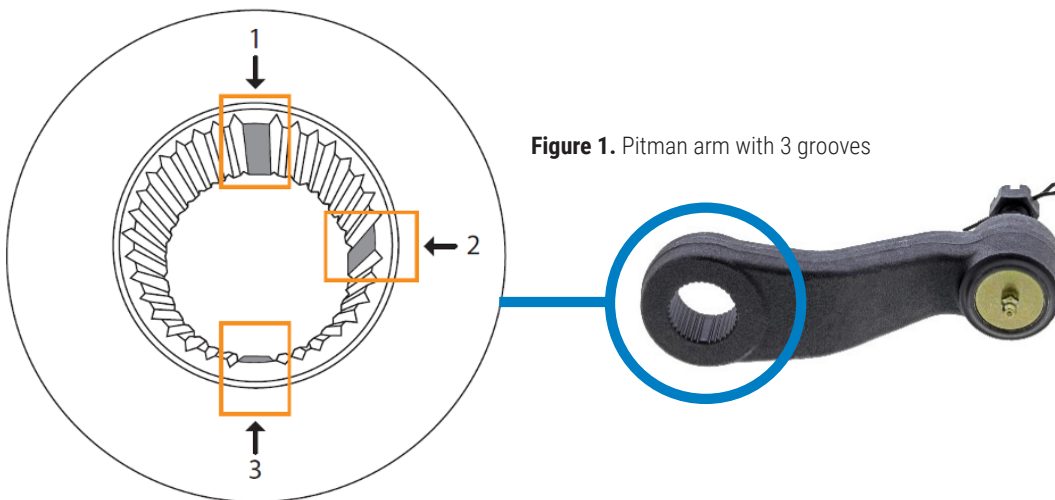

Figure 1. Pitman arm with 3 grooves
- Verify groove count. **See Figure 1.**